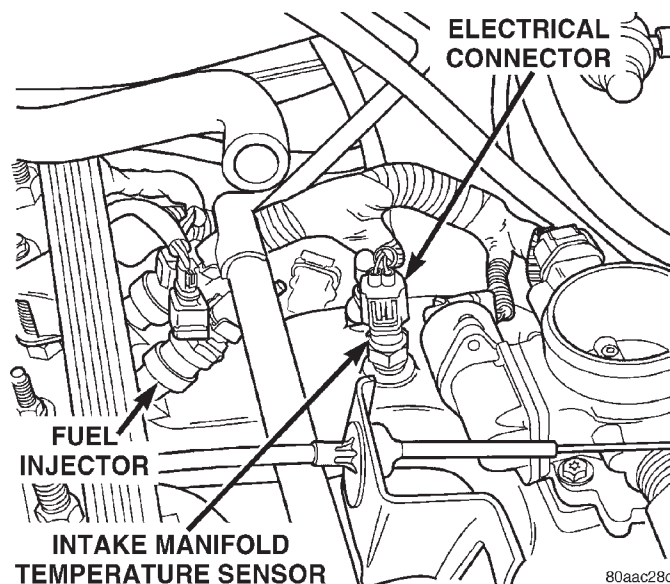
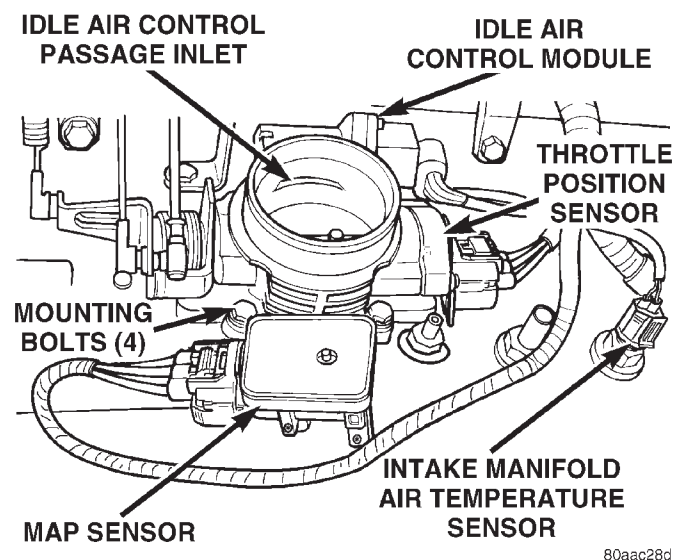
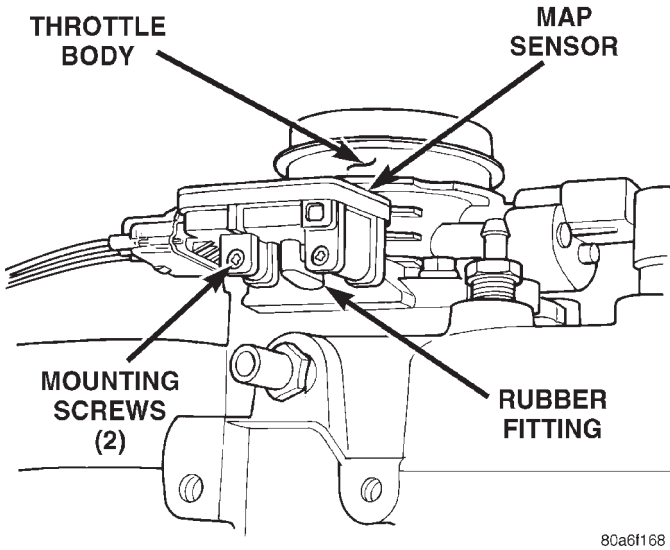

Fig. 19 Intake Manifold Air Temp. Sensor Location—2.5L Engine
Fig. 20 Sensor Locations—4.0L Engine
Fig. 21 Rubber L-Shaped Fitting—MAP Sensor-to-Throttle Body
(6) Verify that generator output wire, generator connector and ground wire are firmly connected to the generator.
(7) Inspect system body grounds for loose or dirty connections. Refer to Group 8, Wiring for ground locations.
(8) Verify Crankcase Ventilation (CCV) operation. Refer to Group 25, Emission Control System for additional information.
(9) Inspect fuel tube quick-connect fitting-to-fuel rail connections.
(10) Verify that hose connections to all ports of vacuum fittings on intake manifold are tight and not leaking.
(11) Inspect accelerator cable and transmission throttle cable (if equipped). Check their connections to throttle arm of throttle body for any binding or restrictions.
(12) If equipped with vacuum brake booster, verify that vacuum booster hose is firmly connected to fitting on intake manifold. Also check connection to brake vacuum booster.
(13) Inspect air cleaner inlet and air cleaner element for dirt or restrictions.
(14) Inspect radiator grille area, radiator fins and air conditioning condenser for restrictions.
(15) Verify intake manifold air temperature sensor wire connector is firmly connected to harness connector (Fig. 19) or (Fig. 20).
(16) Verify MAP sensor electrical connector is firmly connected to MAP sensor (Fig. 20). Also verify rubber L-shaped fitting from MAP sensor to throttle body is firmly connected (Fig. 21).
(17) Verify that fuel injector wire harness connectors are firmly connected to injectors in the correct order. Each harness connector is numerically tagged
(18) Verify harness connectors are firmly connected to Idle Air Control (IAC) motor and Throttle Position Sensor (TPS) (Fig. 20).